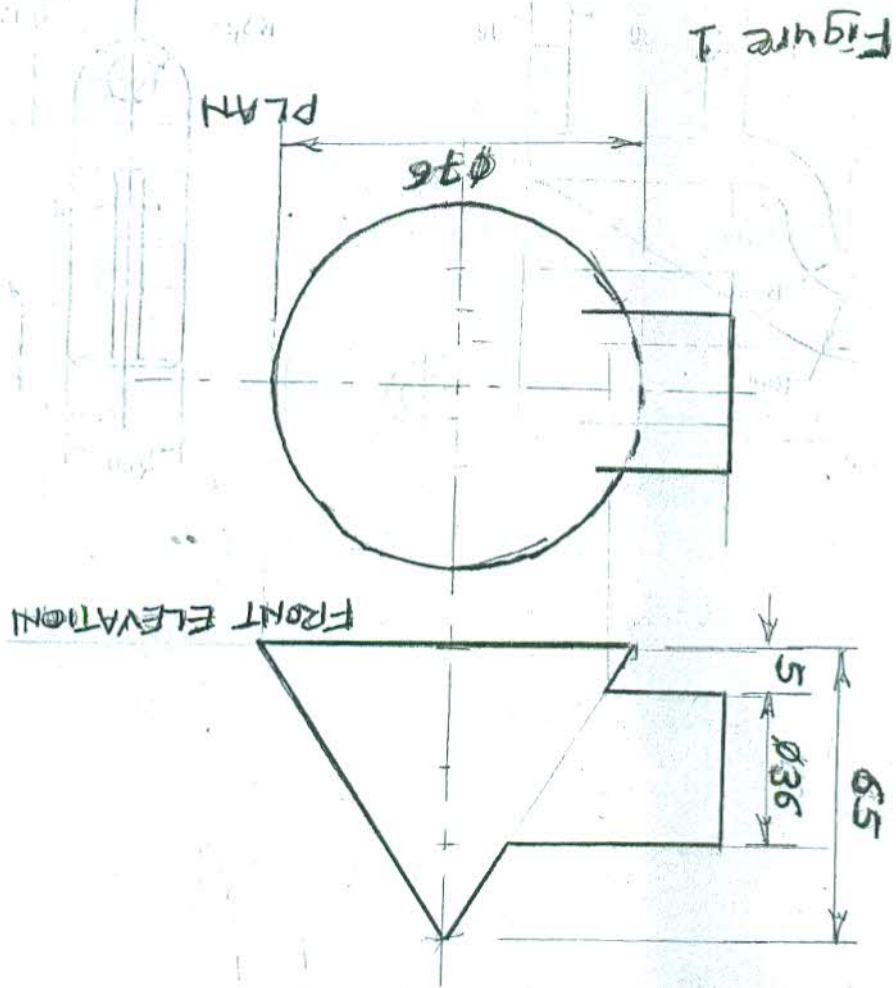

Figure 1
3. Figure 1 shows the front elevation and plan, in first third angle projection, of a cone with an on-centre cylindrical branch off. Develop, full scale, the curve of intersection and develop the pattern for the cone.